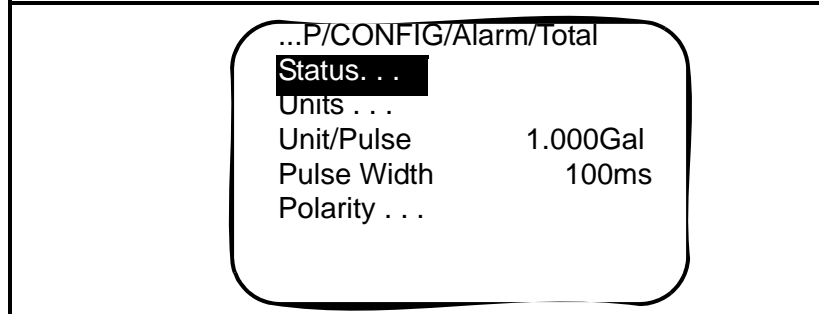

Figure 4-2: The Totalizer Option
4. Use the [▲] and [▼] keys to scroll to the *Totalizer* option and press [ENT]. The screen now appears similar to Figure 4-2 below.